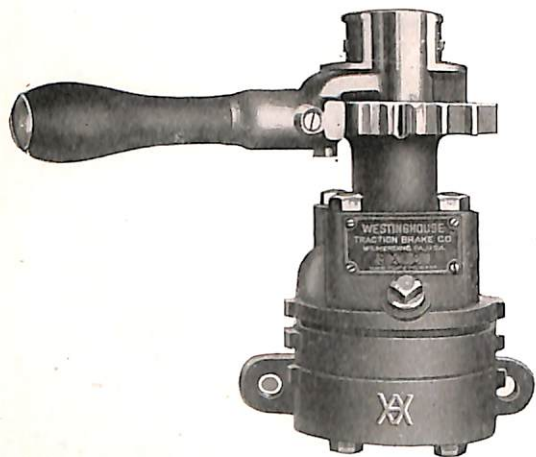

Fig. 17. SX-2 Brake Valve
2. *SX-2 Brake Valve*, Figs. 17 and 18, see note on page 21.